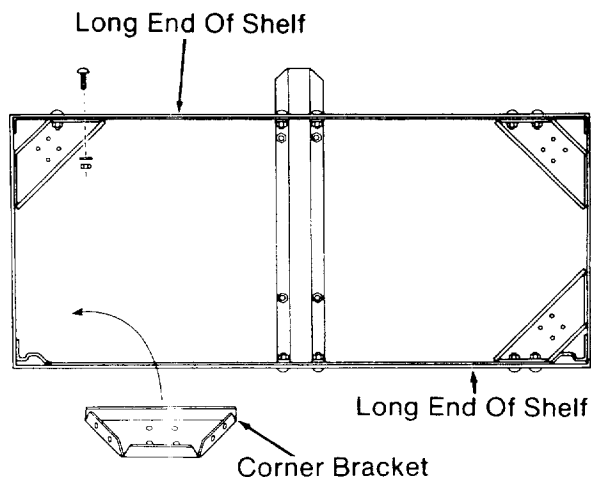

Fig. 19
7. Put a *corner bracket* in each corner of the *shelf*. (Figure 19)
8. Put two truss head bolts through the *shelf* and each *corner bracket* to hold the brackets in place. Only put bolts through holes in the long edges of the *shelf*, not the narrow ends, as shown. (Figure 19)